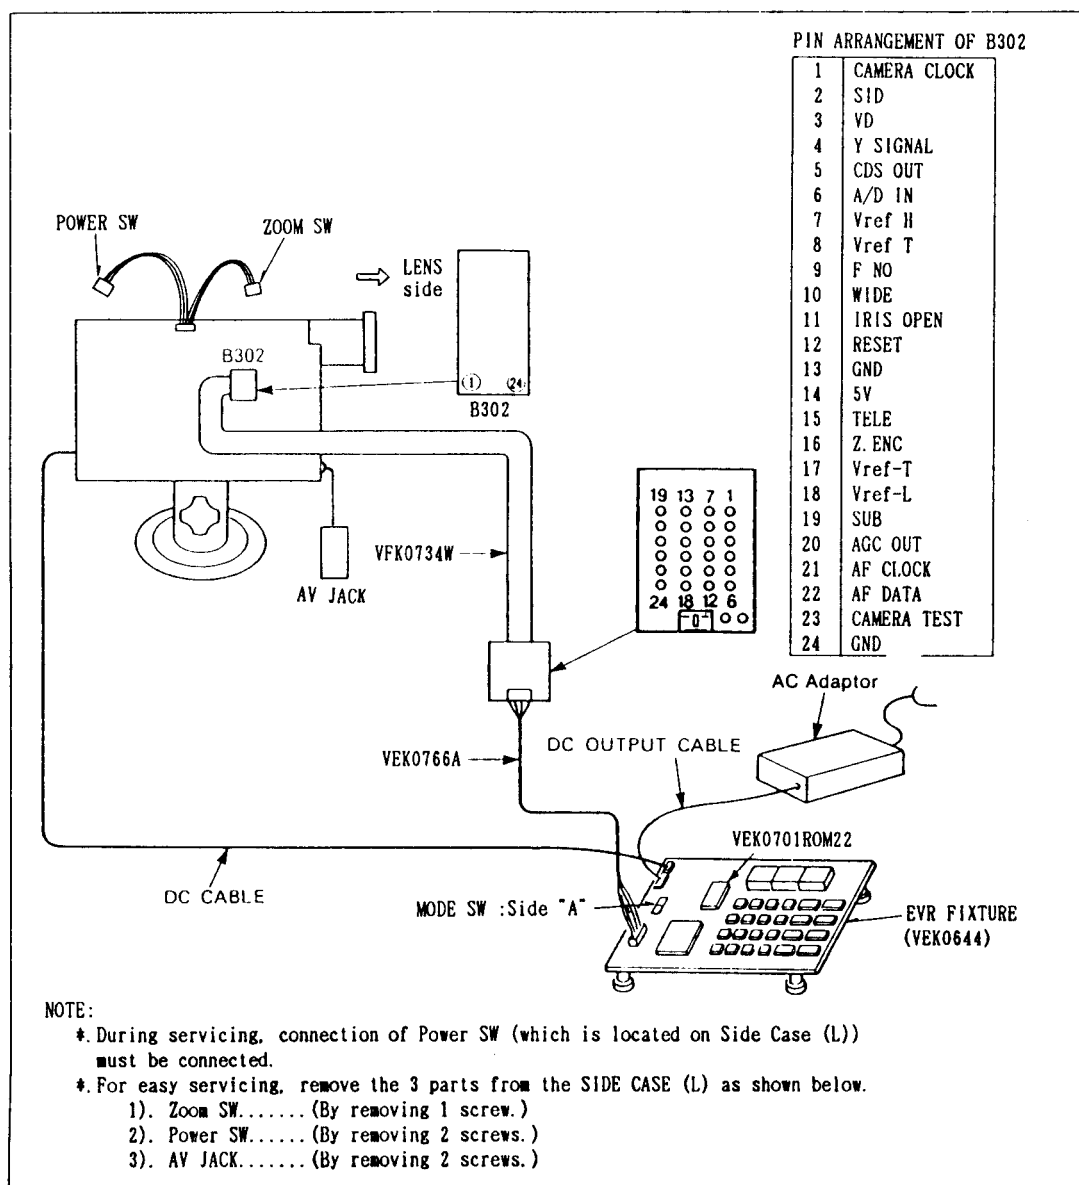

Fig.C1
- 4). Connect the E.V.R. Fixture and equipments as shown in Fig.C1.